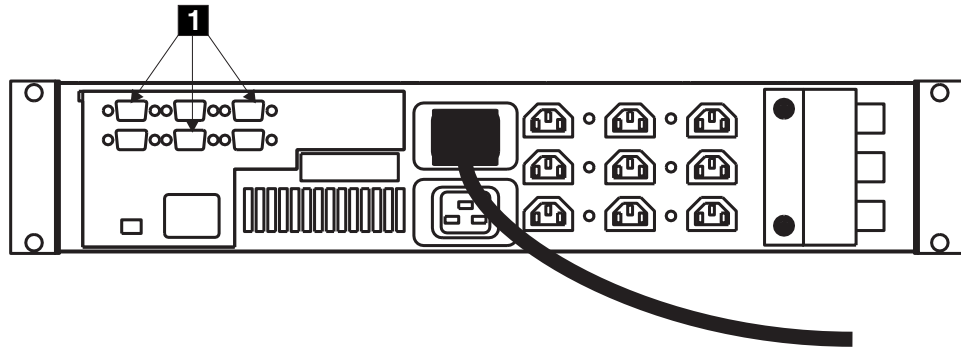

Figure 265. Disconnecting the 2145 UPS signal cables
2. At the back of the 2145 UPS, disconnect the signal cables **1**, which are shown in Figure 265.